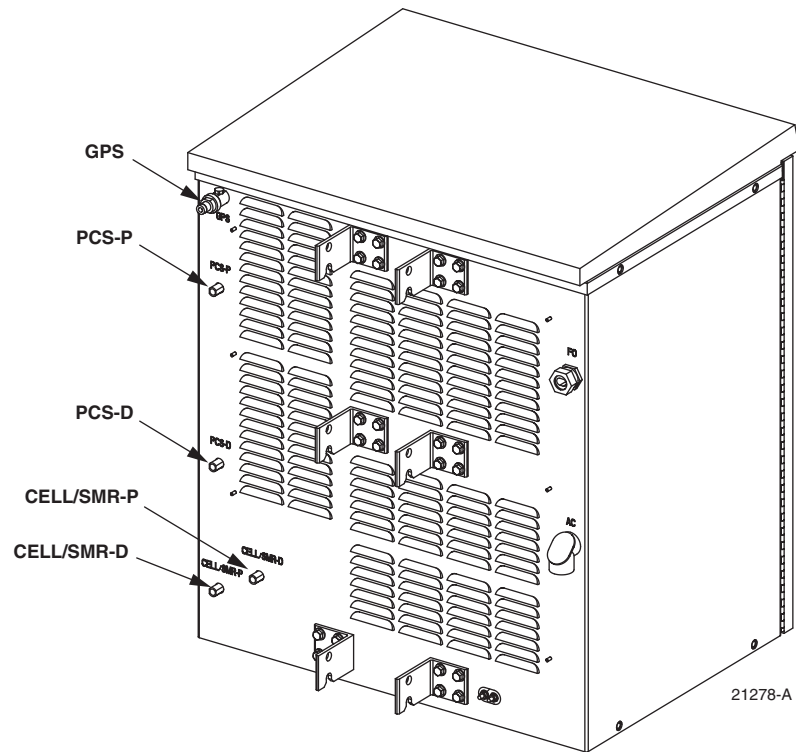

Figure 32. Installing the RF Cables
3. Attach each end of the cables to the appropriate connectors on the antenna base and the RAN. Refer to Figure 32 and Table 21.